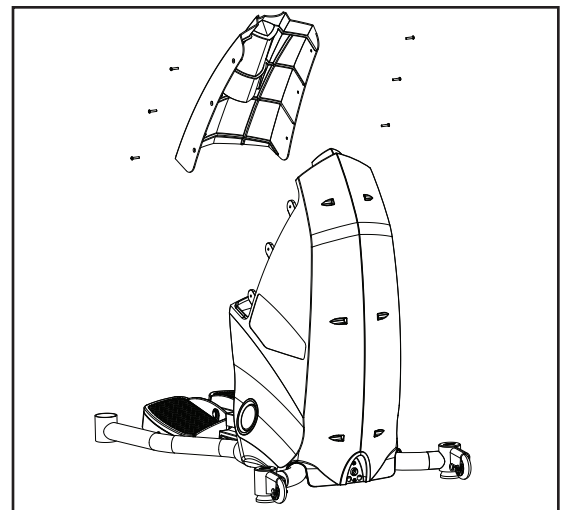

Figure 7
- 5-1 Remove the 6 Phillips screws from the Mid-cover, and place to the side (see Figure 7).